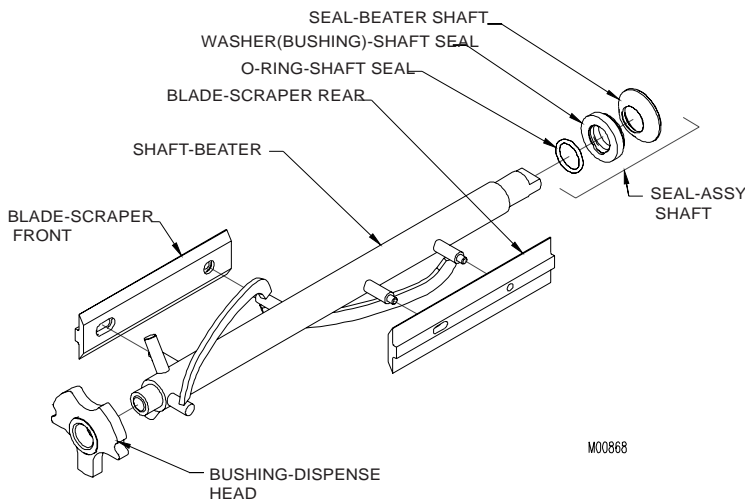

Figure 7-2 Beater Shaft Assembly
2. Install the shaft seal over the rear of the beater shaft, with the bell-shaped portion facing the rear as shown in figure 7-2.